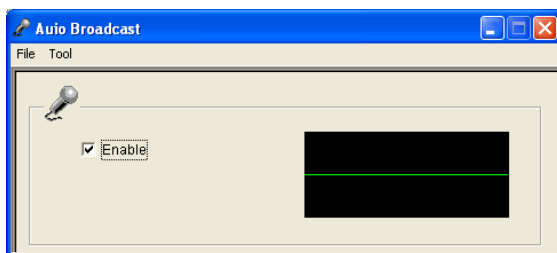

Figure 4-2
2. On the left panel, select **Live View** and select **Multicast**. The Multicast Viewer (Figure 4-2) appears.
1. Click the **Multicast** button on the Multi View screen. The Multicast Viewer (Figure 4-2) appears.